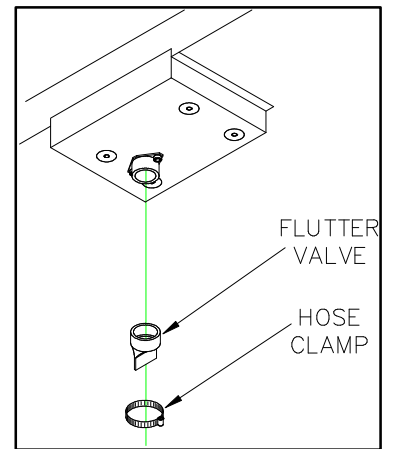

FIGURE 4-5: FLUTTER VALVE (DRAIN)
- c. Refer to **Figure 4-5**. Remove hose clamp.